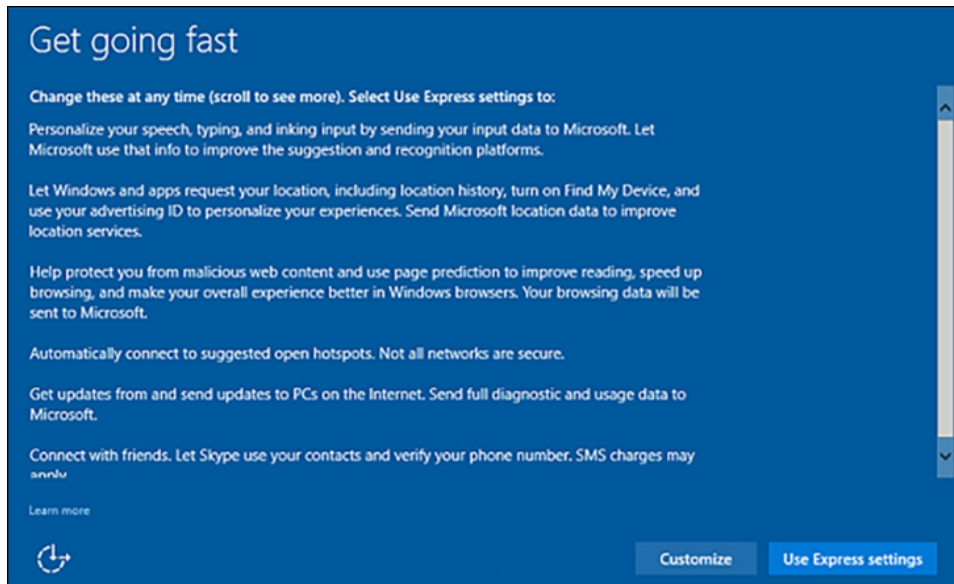

Figure 2-7. Get Going Fast dialog
The installation program displays the Get Going Fast dialog (Figure 2-7).
2. In the Get going fast dialog (Figure 2-7), click **Customize**.